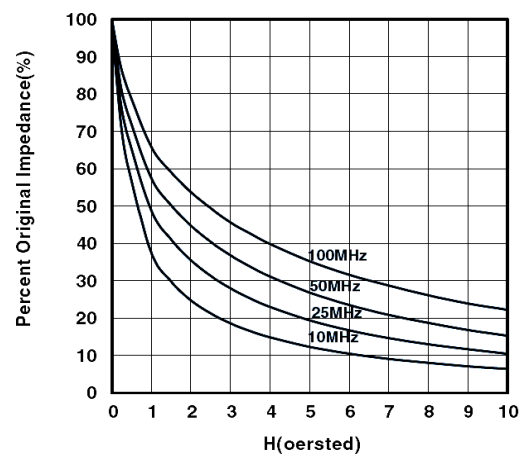

Fig 26 – Reduction of Impedance with DC Current (Bias) Fair-Rite #31 Mix
**Quantifying the Reduction in Impedance with DC Current** The Fair-Rite catalog provides data for the H-field in Oersteds for 1 Ampere-Turn for many of their products. The applications section at the end of the catalog includes families of curves showing how the impedance of each material (mix) is reduced as a function of field strength and frequency. (Fig 26)